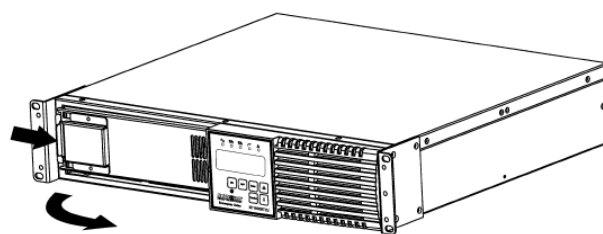

FIG. 2
3. Press the spring-loaded latch on the battery retaining bracket on the left-hand side, pull it outward and then set it aside (FIG. 2)